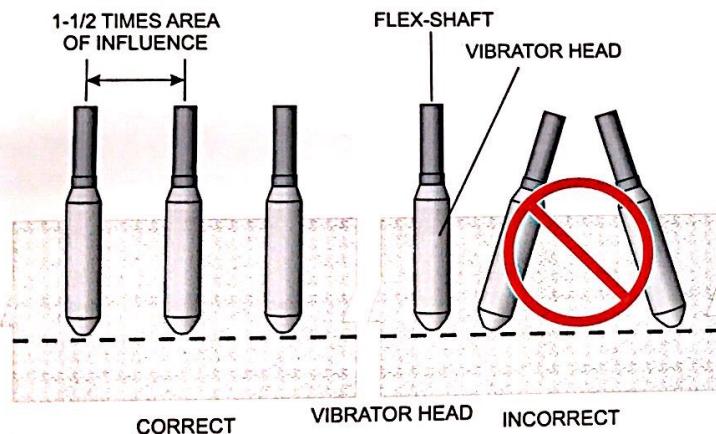

Figure 7. Vibrator Head Insertion
2. Keep flexshaft (Figure 7) straight as possible when operating. Sharp bends increase the load on the core and drive motor, which will result in early core failure and possible damage to the drive motor.
9. Re-insert vibrator into mix according to the "area of influence" See Figure 7. Establish a symmetrical overlapping pattern for inserting and removing the vibrator head.